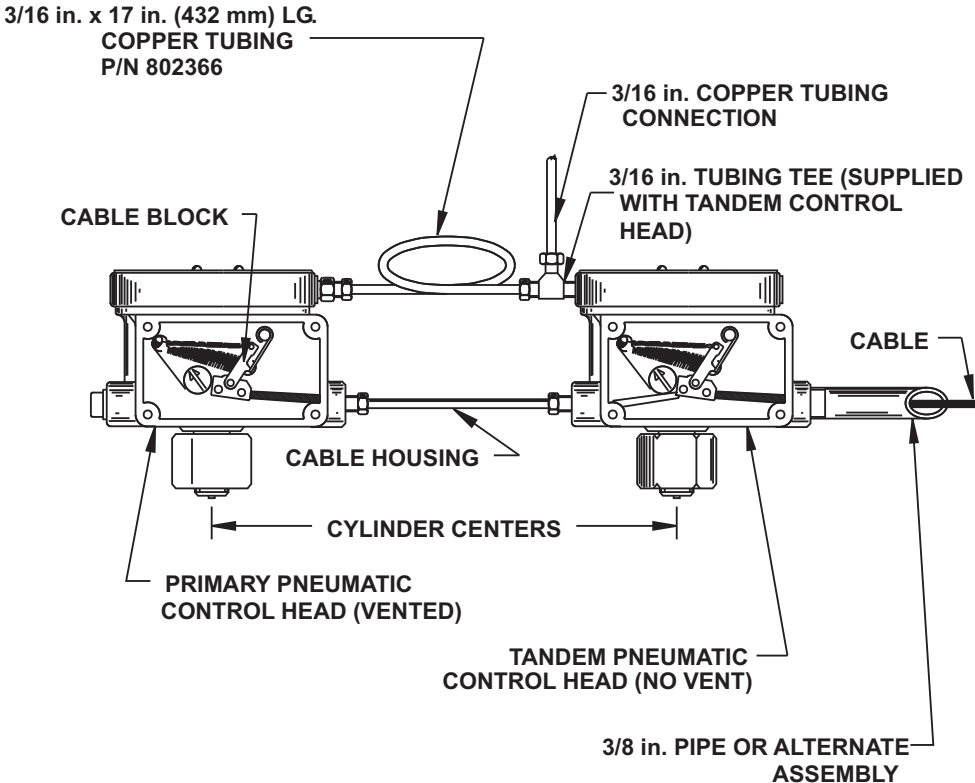

Figure 4-22. Tandem Pneumatic Control Head
5. If a tandem pneumatic control head is required, both control heads must be connected using 3/16 in. tubing (P/N 802366). See Figure 4-22.